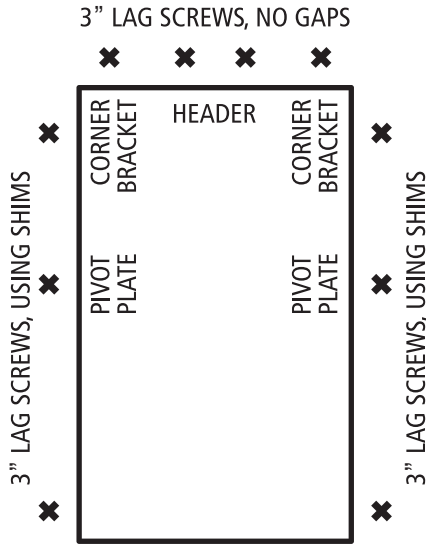

FIGURE 7
A. The ladder comes with pre-drilled holes for permanent installation at locations shown in Figure 7. Shim, when necessary to fill space between ladder frame and rough opening, at pre-drilled locations. Using $\frac{3}{16}$ " drill bit, drill pilot holes through shim into ceiling joists and header.